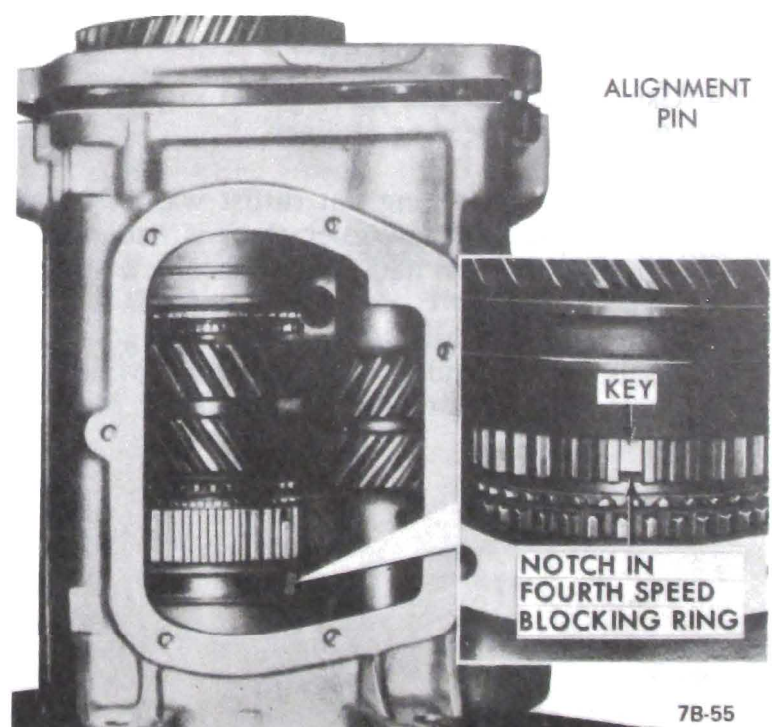

Figure 7B-59 - Installing Mainshaft Assembly
5. Attach a dial indicator as shown in Figure 7B-61 and check end play of countergear. If end play is greater than .025" new thrust washers must be installed.